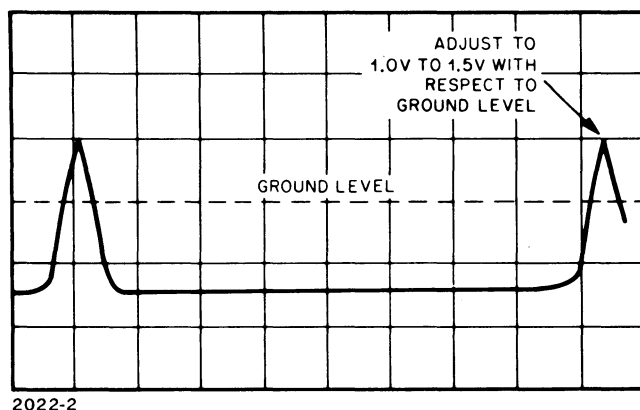

Figure 5-1. Pulse Amplitude at Threshold Voltage
o. Adjust variable resistor R66 until the positive peaks of the pulses are 1.0 to 1.5 volts above card ground level (not peak-to-peak) as shown in figure 5-1.